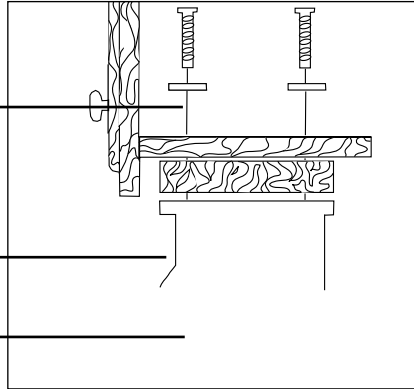

FIGURE 2
4. The four screws may be installed from the top down or from the bottom up (see Figure 2). If installed from the top, be sure the bottom of the screw does not interfere with the body of the can opener and prevent assembly. If this occurs you will need to trim off the excessive screw length or you may place a spacer under the screw head. Place the hex nuts in the hex shaped recess of the mounting bracket and hold in place with the end of a pencil until you engage the threads.